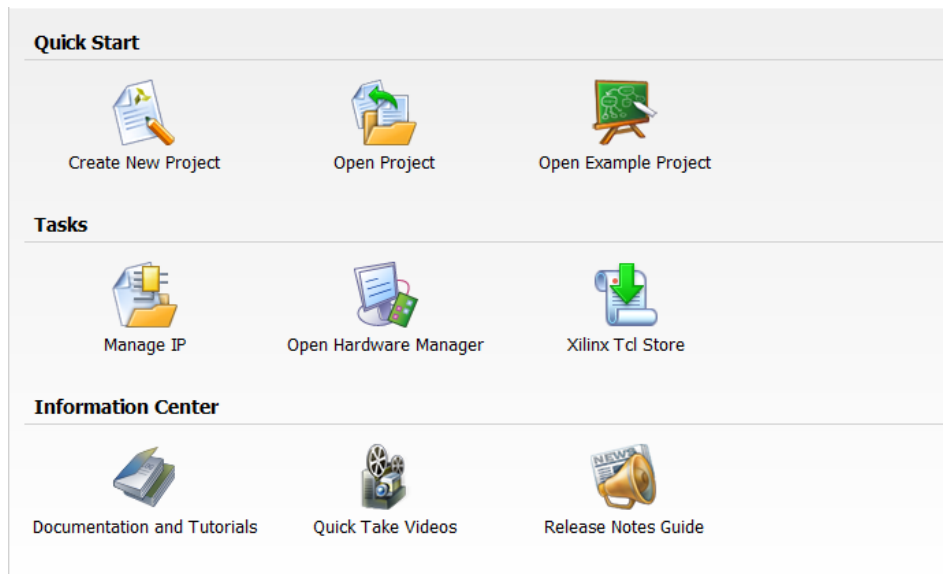

Figure 1: Vivado Quick Start Page
1. Start the Vivado IDE (FIGURE 1) by clicking the Vivado desktop icon or by typing **vivado** at a terminal command line.